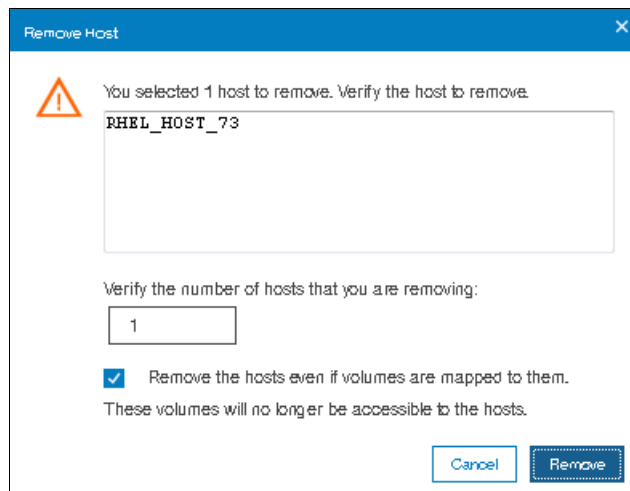

Figure 8-23 Removing a host
3. Verify the number of hosts you are removing, along with confirmation to remove the host even if the host has mapped volumes, as shown in Figure 8-23.